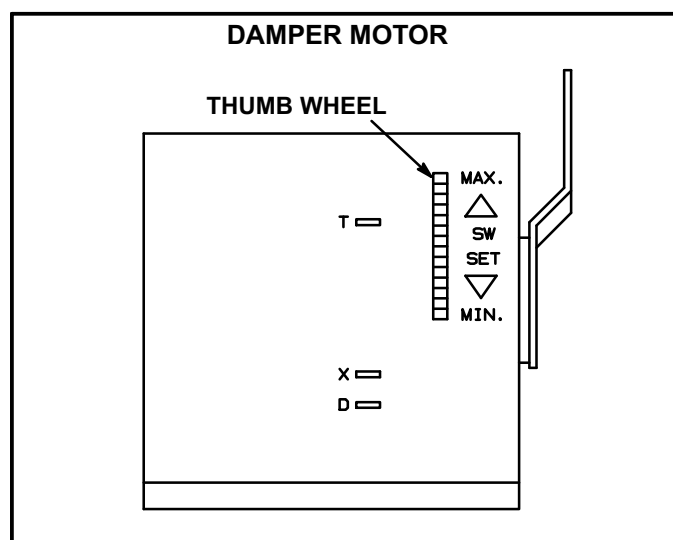

FIGURE 27
- 7- If fresh air percentage is less than desired, adjust thumb wheel higher. If fresh air percentage is more than desired, adjust thumb wheel lower. Repeat steps until calculation reads desired fresh air percentage. See figure 27.
Set damper minimum position in the same manner as economizer minimum position. Adjust motorized damper position using the thumb wheel on the damper motor. See figure 27. Manual damper fresh air intake percentage can be determined in the same manner.